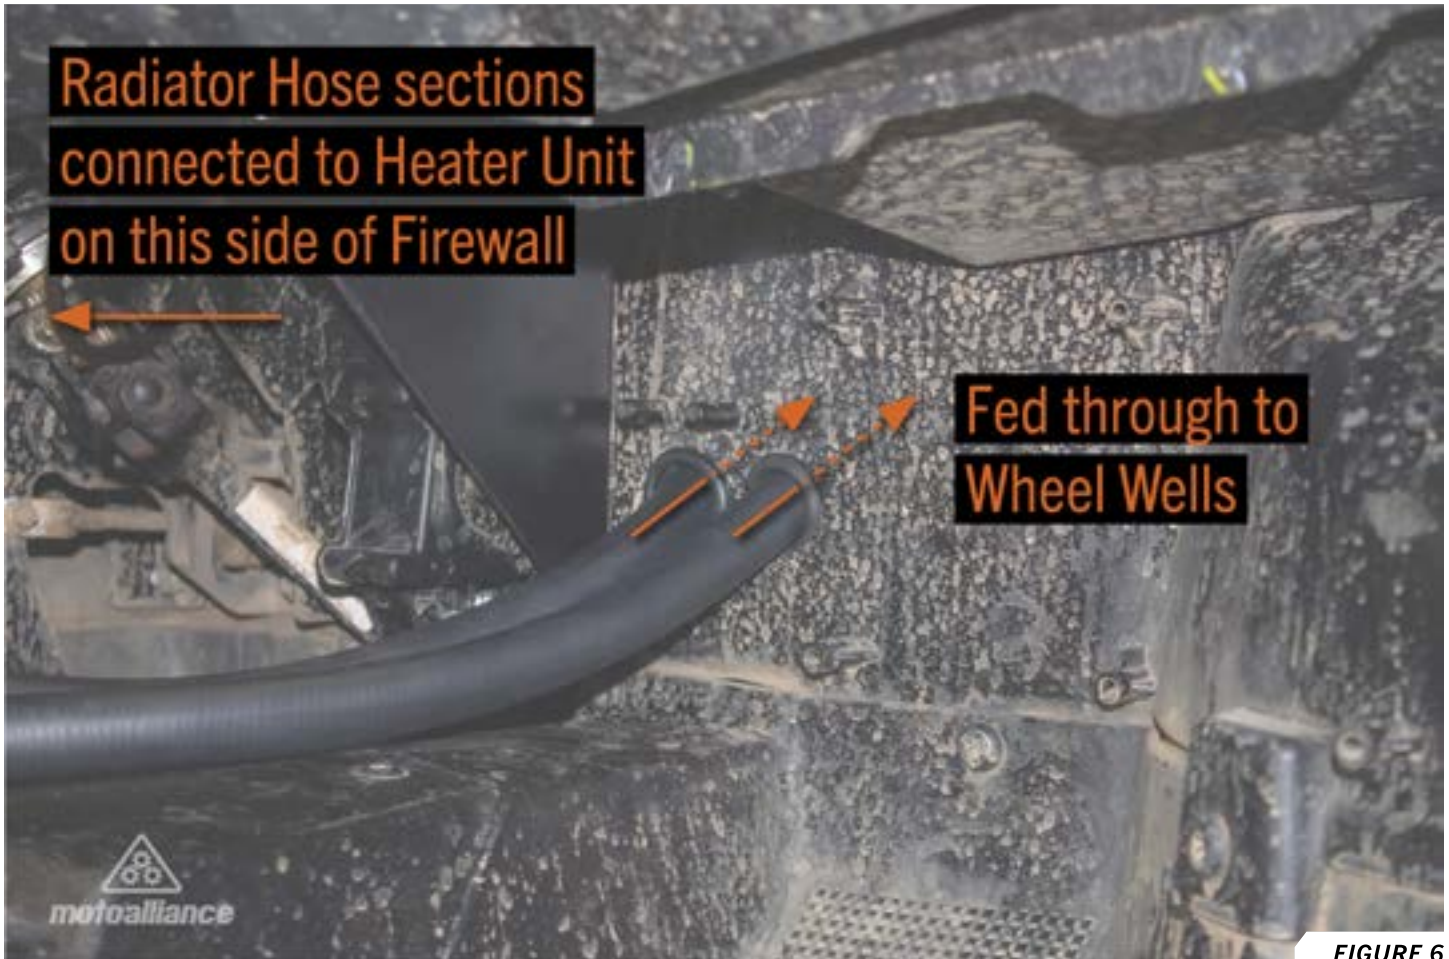

FIGURE 6
9. Connect the 12' section and the 8' section to the inlets of the heater unit and then feed through the two holes in the firewall. *FIGURE 6*